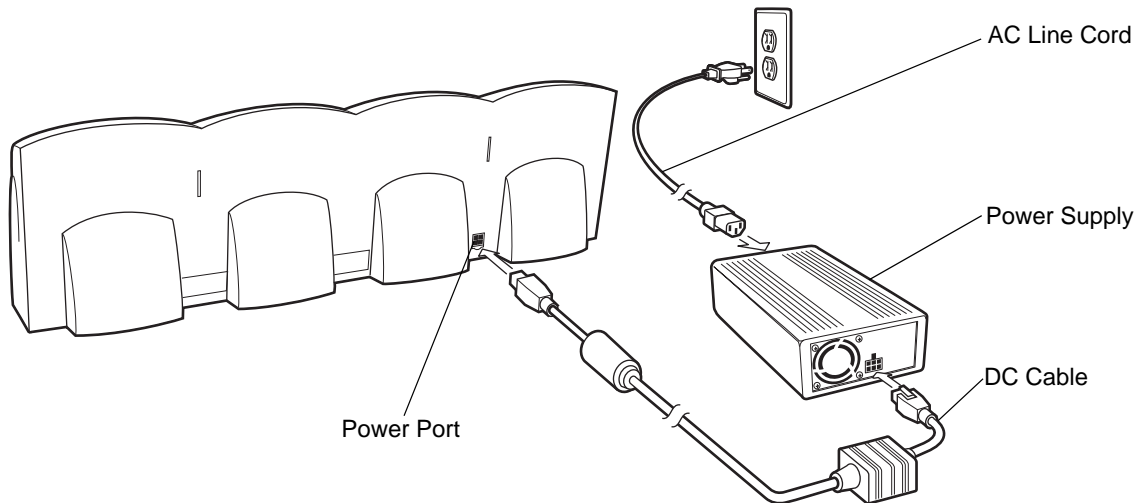

Figure 2-3 Four Slot Charge Only Cradle, Setup
5. Connect the power (see Figure 2-3 on page 2-6). The power supply should be located in the power supply well.